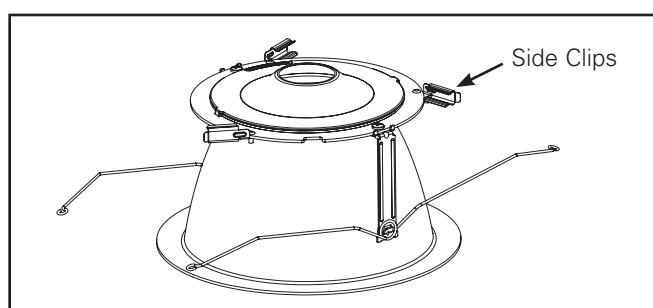

Figure 7
3. Remove trim assembly from protective packaging and rotate side clips (3) outwards. (Figure 7).